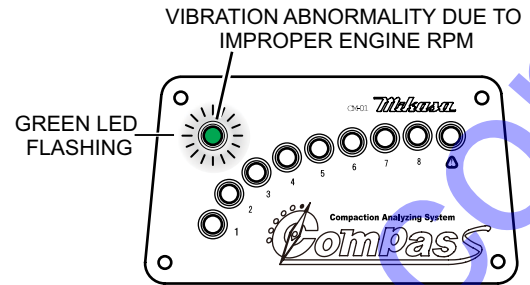

Figure 28. Vibration Abnormality
2. When appropriate vibration frequency cannot be achieved during operation due to improper engine RPMs (Figure 28) the green LED will flash. When this occurs check the engine RPMs and the V-belt tension as it could be loose.